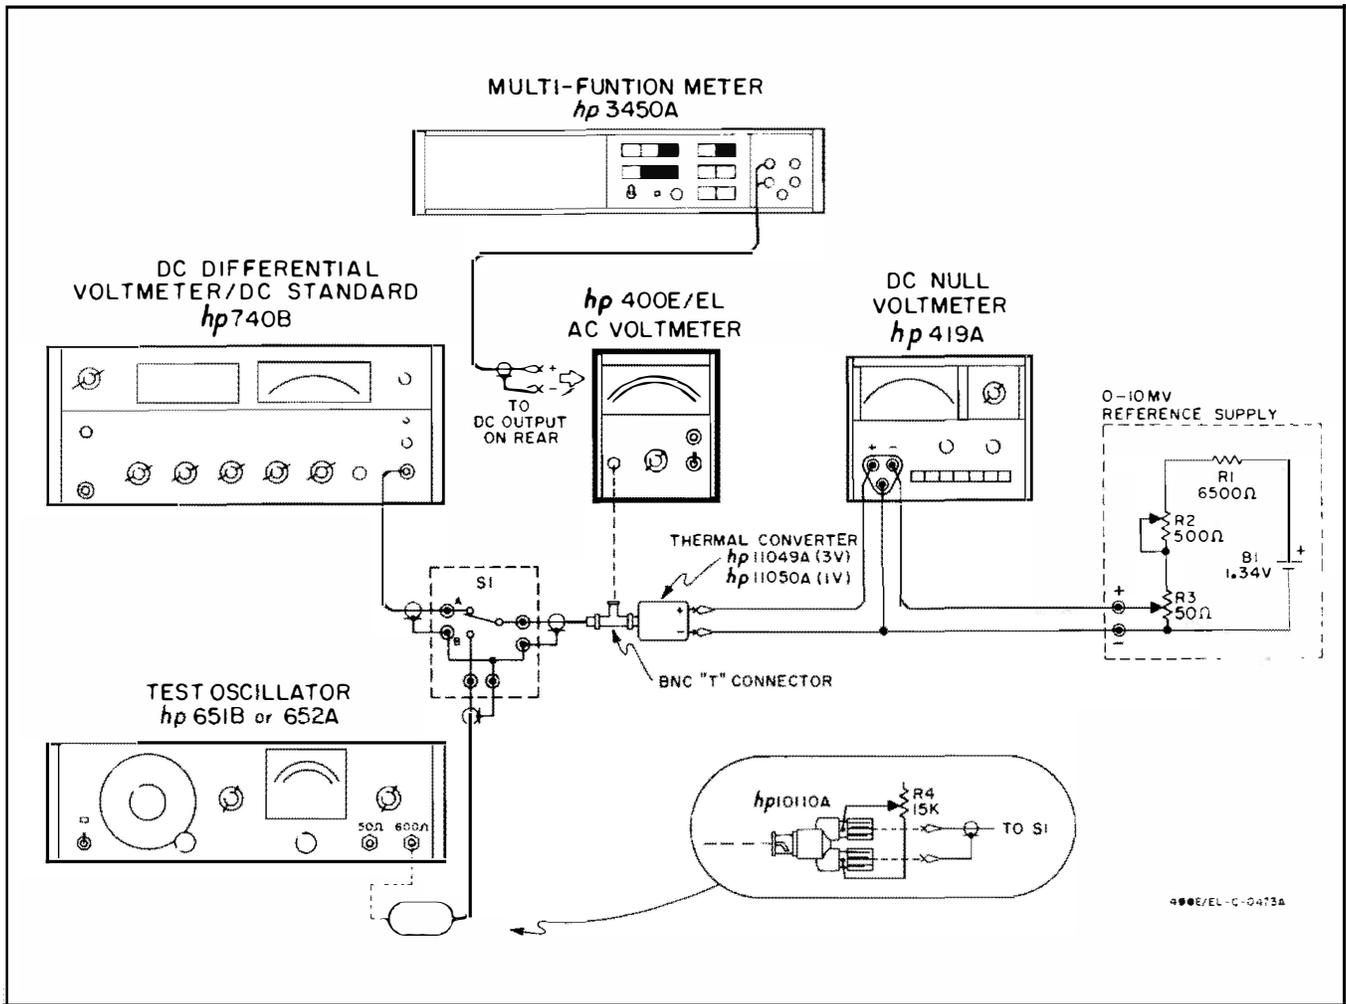

Figure 5-2. Accuracy and Frequency Response Test Setup
5-15. The test setup in Figure 5-2 uses a thermal converter with a null circuit to adjust the frequency response of the test oscillator to within 0.2% over its entire band. Construct the 0 to 10mV Reference Supply shown in Figure 5-2 and allow it at least 24 hours to stabilize.
Figure 5-2. Set switch S1 to position A connecting the dc standard output to the thermal converter input. The reference supply and the thermal converter are sensitive to variations in ambient temperature. Ensure that the ambient temperature variations are less than $\pm 2.0^\circ$ C.
- a. Set switch S1 in Figure 5-2 to position B, connecting the test oscillator's 600 ohm output to the thermal converter input. Connect the digital voltmeter to the 400E/EL DC OUTPUT terminals.
- c. Using the oscillator amplitude control as coarse adjustment and resistor R4 (Figure 5-2) as fine adjustment, increase the oscillator amplitude until the thermal converter output nulls the reference supply. Observe the 400E/EL meter indication and dc output.
- b. Set S1 in Figure 5-2 to position B, connecting the test oscillator 600 ohm output to the thermal converter input. Connect the digital voltmeter to the 400E/EL DC OUTPUT terminals.
- b. Set S1 in Figure 5-2 to position B, connecting the test oscillator output to the thermal converter input. Connect the digital voltmeter to the 400E/EL DC OUTPUT terminals.
- h. Using the oscillator amplitude control as coarse adjustment and resistor R4 (Figure 5-2) as fine adjustment, increase the oscillator amplitude until the thermal converter output nulls the reference supply. Observe the 400E/EL meter indication and dc output.